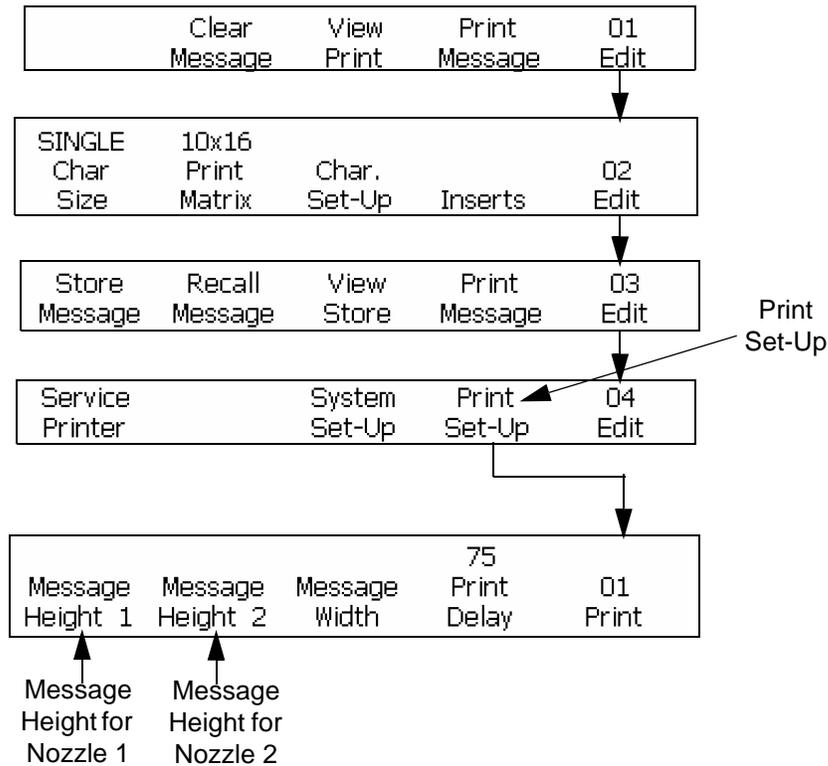

Figure 6-20: Assessing Frame <01 Print>
The procedure describes how to adjust the height of a message separately for either nozzle-1 or nozzle-2 displays in the frame <01 Print>. It is not required to reload the message, for changes in the message height to become active. Refer to Figure 6-20.
- 1 Begin in the Frame <01 Print>. Refer to Figure 6-20.